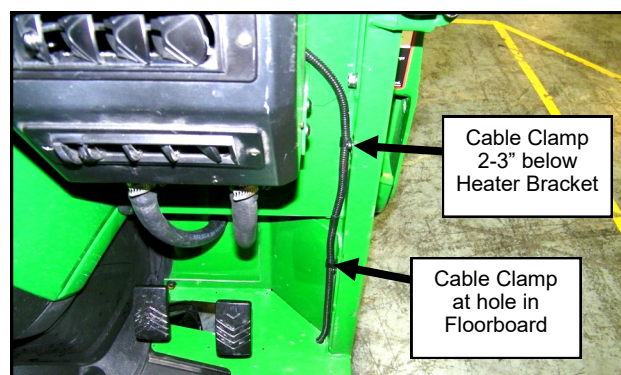

Fig. 21.5 (Secure Wires to A-Pillar)
- 21.5 Secure the wiring harness to the A-pillar with cable clamps and self-drilling screws. See figure 21.5. Clean up metal shavings afterward.